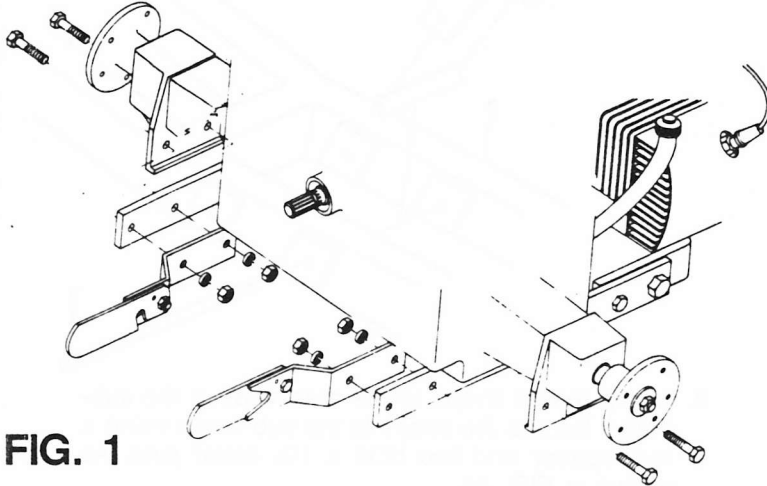

FIG. 1
1. Attach the rear axle latches to the tractor rear axle. **The rear axle latches must be purchased from your Gravelly Dealer. Axle Latch Kit Part No. 19768.** Remove the $\frac{1}{2}$ —13 x $\frac{1}{2}$ capscrews holding the hitch to the rear axle. Attach the rear axle latches and the hitch to the rear axle using two $\frac{1}{2}$ — 13 x 2 hex hd. capscrews, nuts and lock-washers. Both sides as shown in Fig. 1.